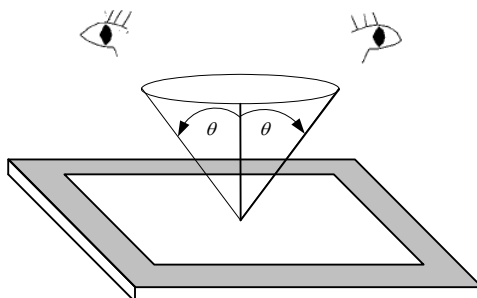

Fig. 11.1
- The viewing zone is defined with angle θ shown in Fig. 11.1. The inspection should be performed within 45° when display is shut down. The inspection should be performed within 5° when display is power on.